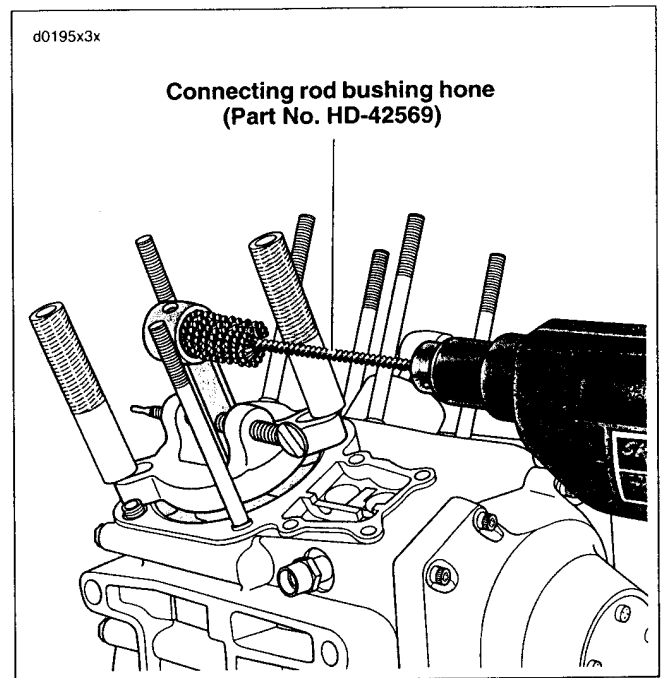

Figure 3-127. Honing Upper Connecting Rod Bushing
1. See Figure 3-127. Obtain the CONNECTING ROD BUSHING HONE (Part No. HD-42569) and REAMER LUBRICANT (Part No. HD-39964).